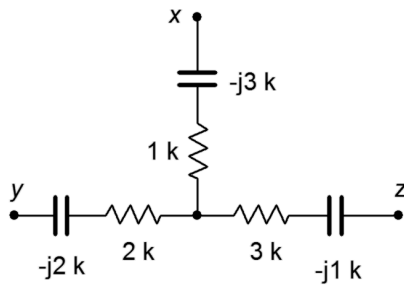

Figure 5.34
60. Determine the equivalent delta (π) network for the circuit of Figure 5.34.